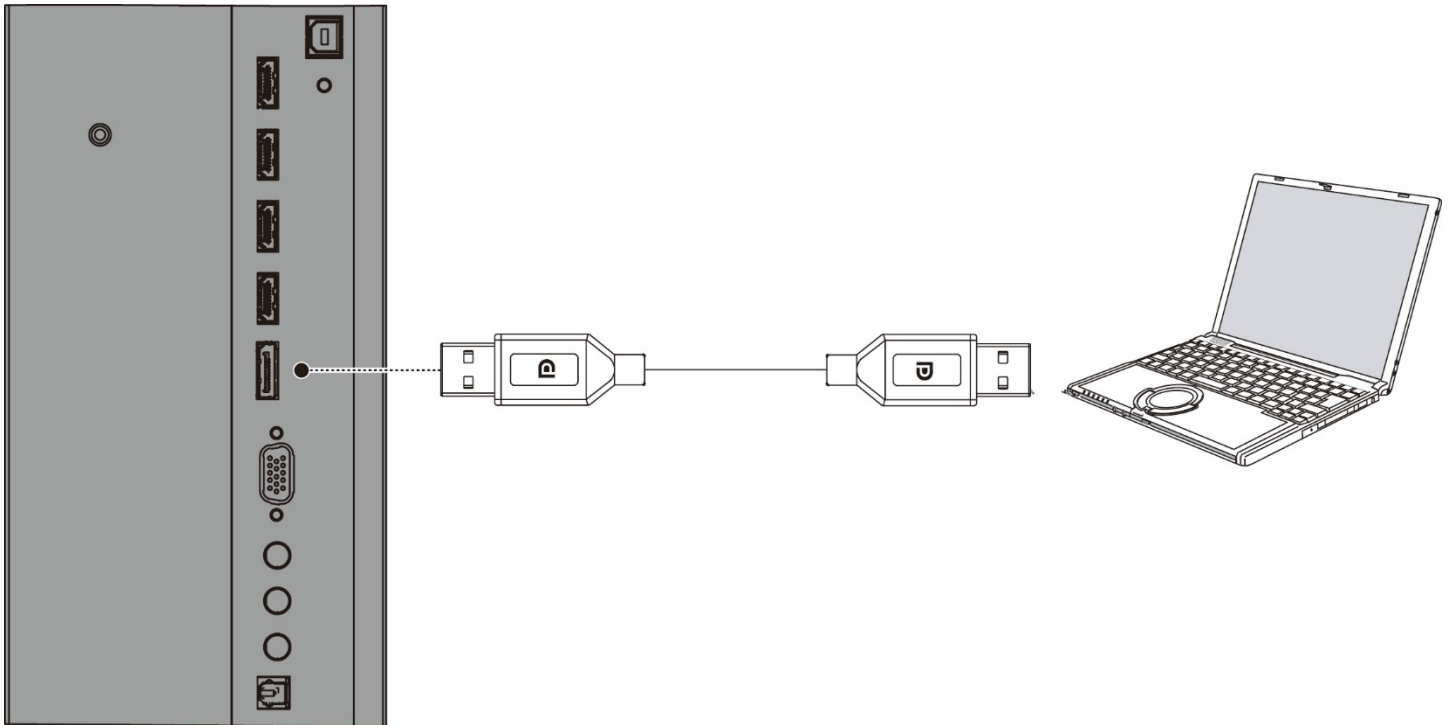
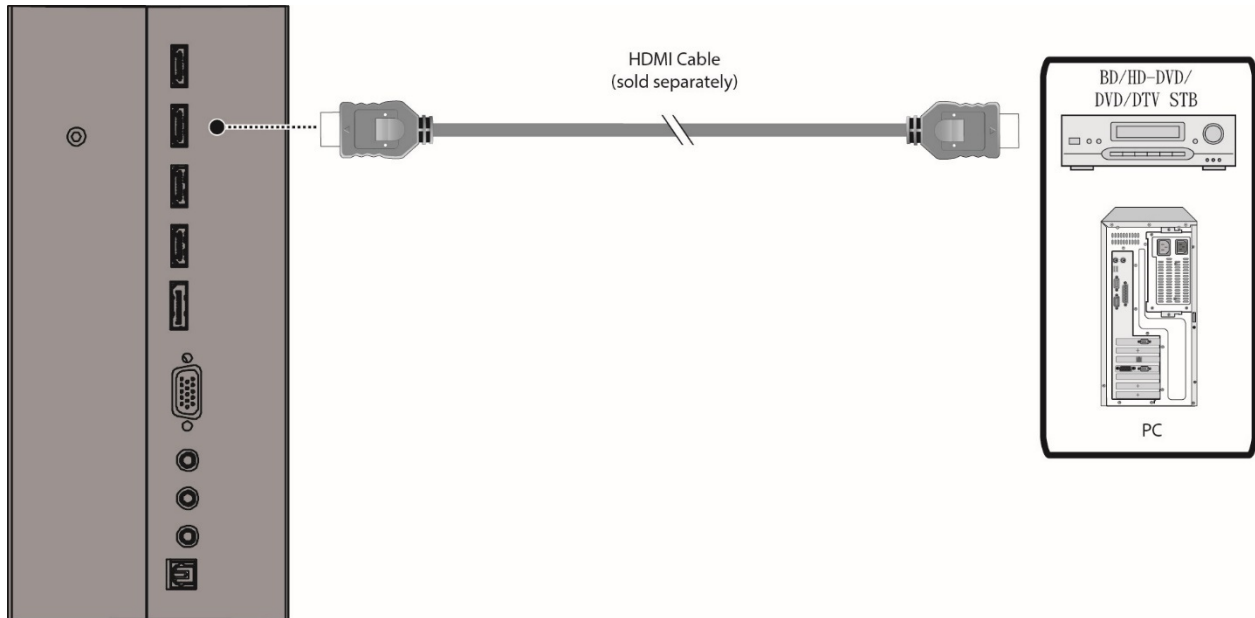
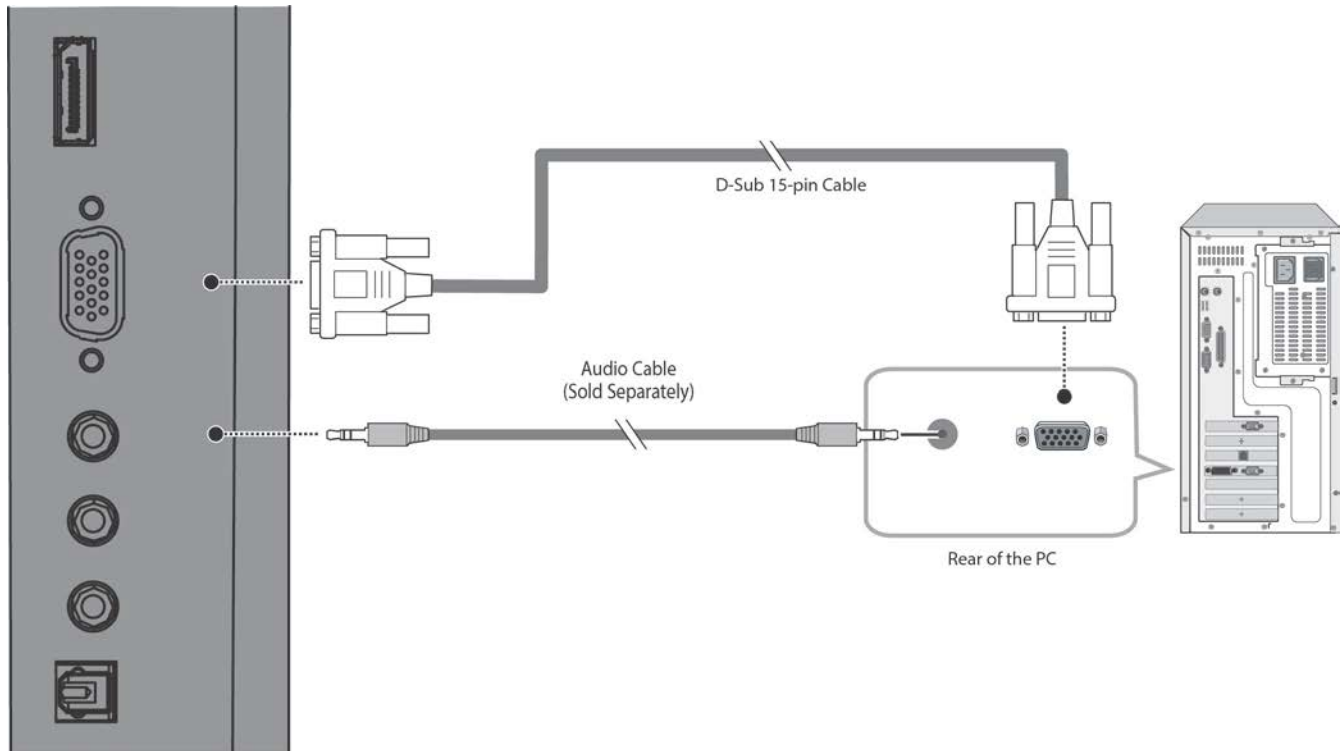

Figure 3-4. DisplayPort Source Connection
Figure 3-5. HDMI Source Connections
Figure 3-6. VGA Source Connections
DisplayPort Source Connection: See Figure 3-4.
HDMI Source Connections: See Figure 3-5.
VGA Source Connection: Connect a personal computer or other RGB source to the VGA input as shown in Figure 3-6.
- The video output from the computer is connected to a video input on the display. See Figure 3-4, Figure 3-5 or Figure 3-6.